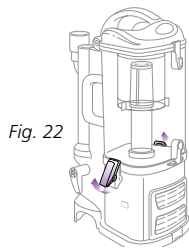

Fig. 22
- Undo the latches on the sides of the dust cup by lifting them up and outwards to remove the dust cup from the motor base. **(Fig. 22)**